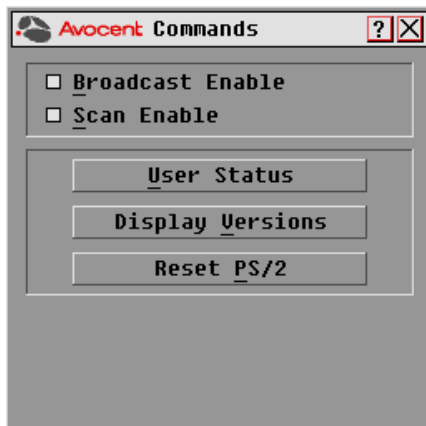

Figure 3.12: OSCAR Interface Commands Dialog Box
2. Click *Commands* to open the Commands dialog box as shown in Figure 3.12.
- a. Click *Commands* to open the Commands dialog box shown in Figure 3.12 on page 37.